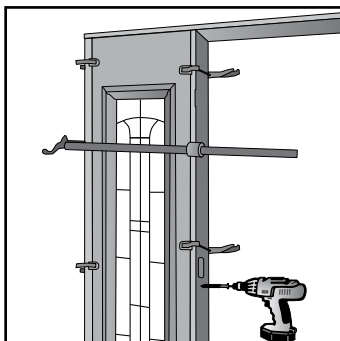

Fig. 19
- H. Anchor strike side mull post to sidelight, using a 1-1/2" screw under lock strike location (**Fig. 19**). Anchor top of mull post to sidelight using two 1-1/2" finish nails approximately 2" down from head jamb through rabbeted face of jamb. Anchor bottom of mull post to sidelight using two 1-1/2" finish nails approximately 2" up from sill into rabbeted portion of mull post.